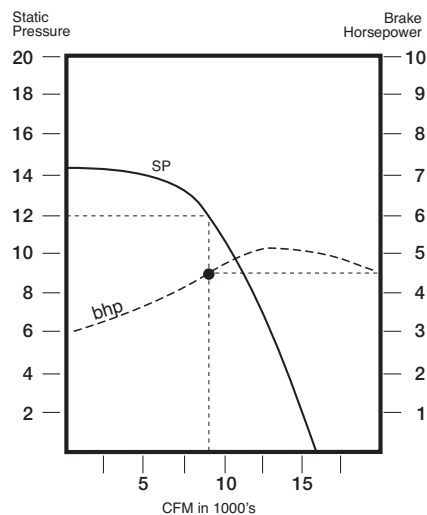

figure 3
**Figure 3** illustrates the addition of the BHP curve. The power scale is presented along the right y-axis. Find the volume on the SP curve and move vertically to the BHP curve. At this intersection, move horizontally to the right-hand scale to read the BHP at that flow.